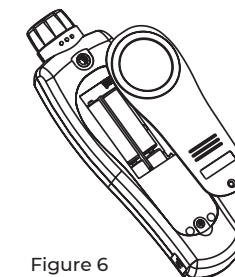

Figure 6
B. Replacing the Battery (See Figure 6)
- Take out the old batteries and replace with 4 x 1.5V battery (AA).